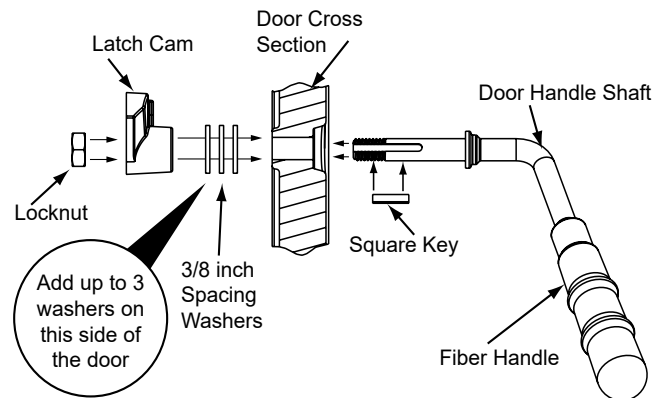

Figure 27.2
1. Slide door handle shaft through hole on door (Figure 27.2).